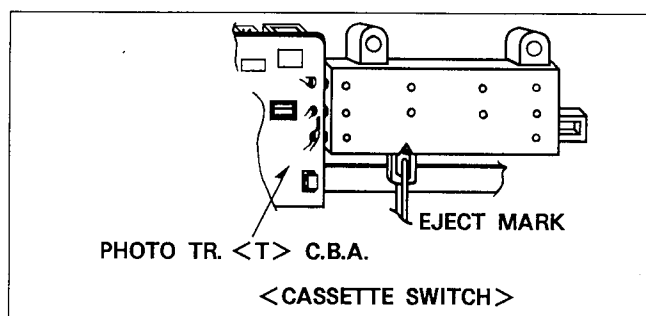

Figure M50-A
2. Remove 3 screws (A) as shown in Figure M50-B.